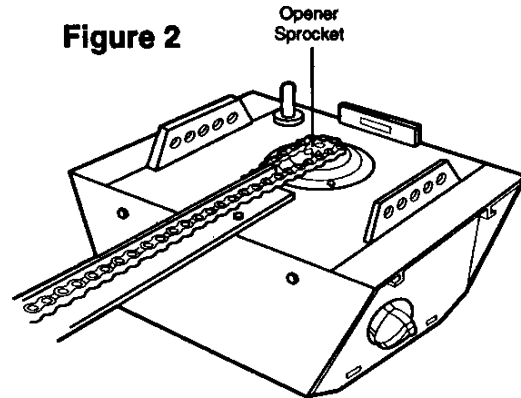

Figure 2
- Proceed back around the opener sprocket, Figure 2. Be sure sprocket teeth engage the chain. Continue forward to the trolley threaded shaft, Figure 3.